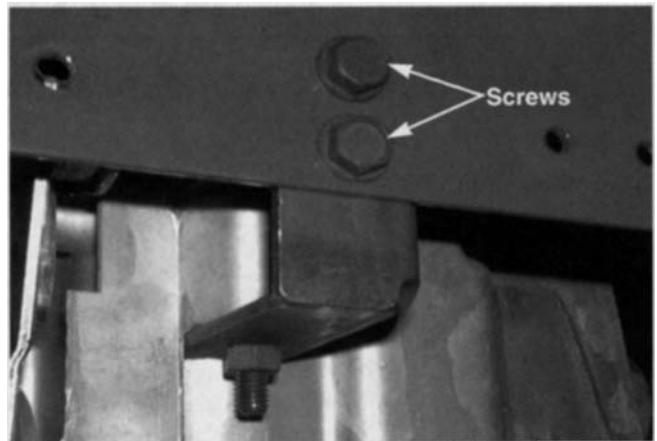

Figure 6-144.
22. Remove both self tapping screws securing the front of the hydrostatic transmission to the front hydrostatic support bracket using 1/2" socket. See figure 6-144.